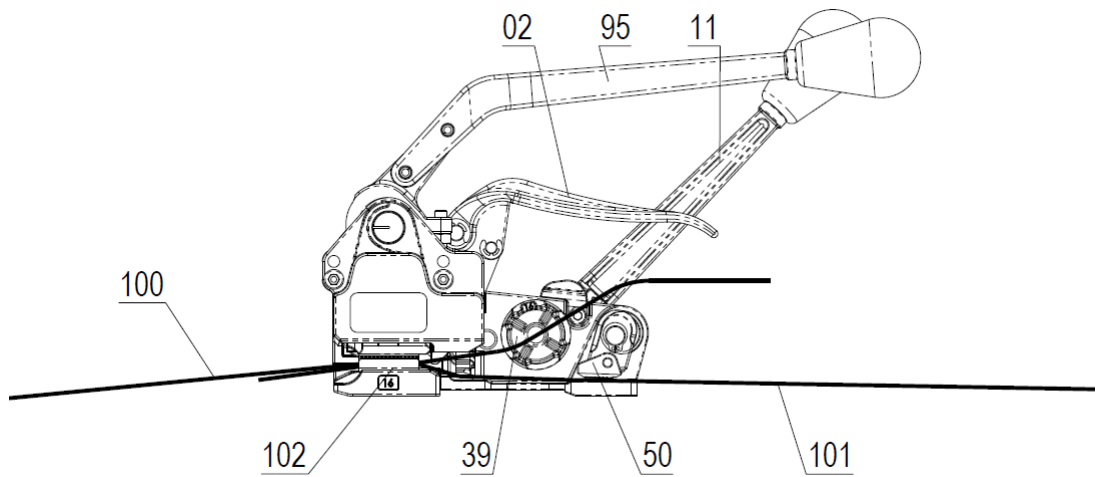

Fig. 4
3. Release **Handle 02** and load upper strap **100** inside the seal **102**, through the cutter and through **Windlass 39** as shown on Fig. 4.